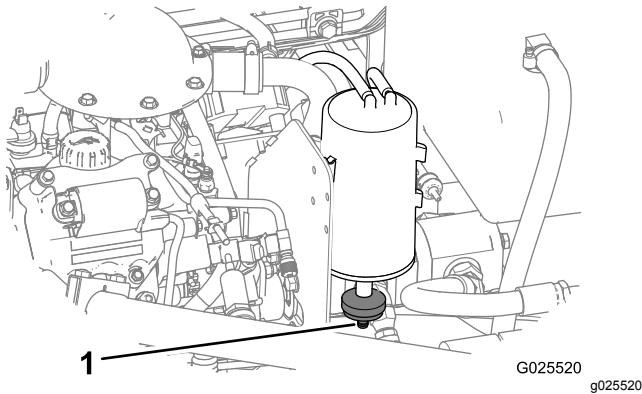

Figure 47
1. Locate the air filter on the bottom of the carbon canister (Figure 47).